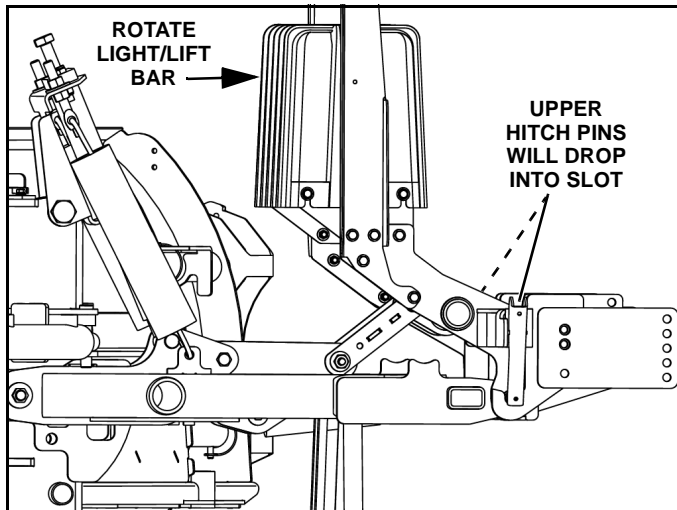
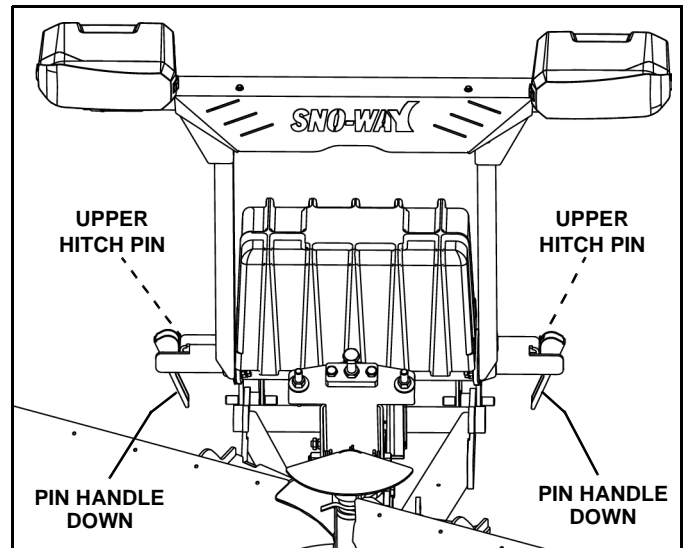

Figure 1-22
Figure 1-23
4. Rotate light/lift bar into position by turning on down pressure and pressing the lower button. (See Figure 1-22).
5. Put plow into float position by turning down pressure off. Rotate pin handles down to lock pins in place. (See Figure 1-22 and Figure 1-23).
Upper hitch pins will snap into place. (See Figure 1-22 and Figure 1-23).